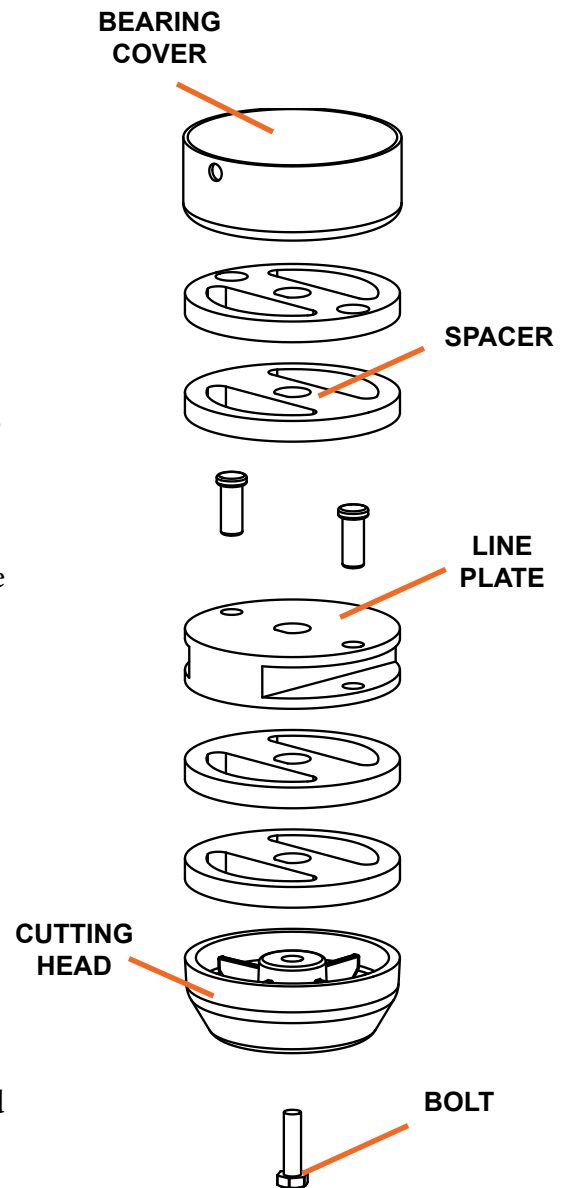

Figure 14
Assemble components in the order shown (see figure 14.)
1. Place the spacer and bearing cover (with the lip facing up) onto the shaft (Figure 14).